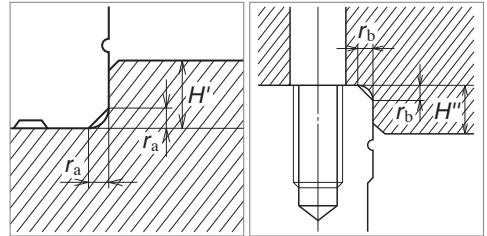

Fig. 9.10 Shoulder for the rail datum face Fig. 9.11 Shoulder for the slide datum face
- Fig. 9.10 and 9.11, show shoulder height of the mounting face of the machine base and the size of corner r . These figures are relevant when the linear guide is pressed to the shoulder of the machine base or table (the raised section from where the mounting face begins), and horizontally secured to it. Recommended sizes are shown in "Shoulder height and corner radius r " of each series introduction.